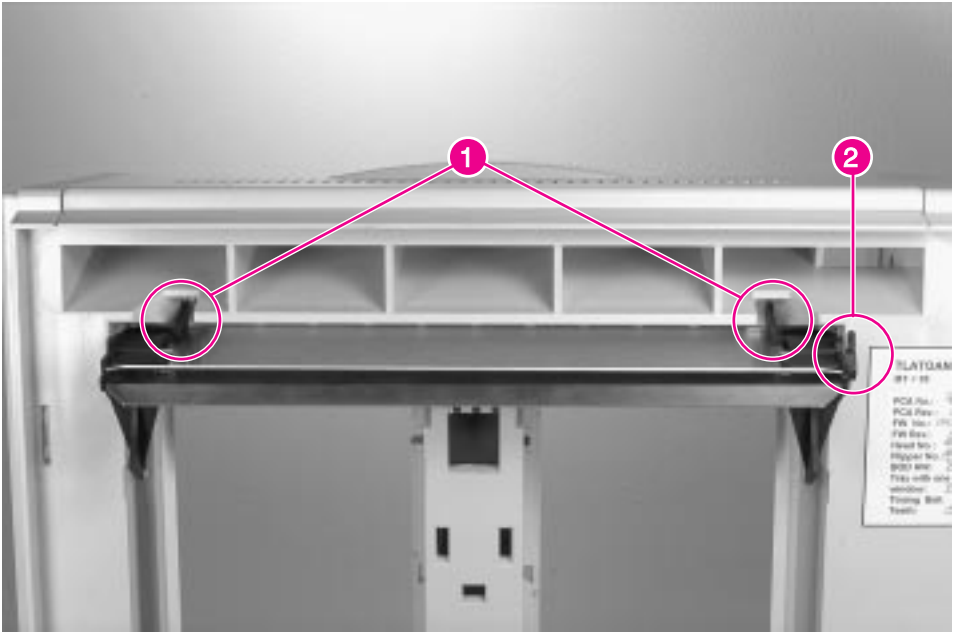

Figure 6-61 Mailbox with Stapler, Input Paper Guide
- 3 From the rear of the unit, release the Paper Guide retaining tabs (figure 6-61, callout 1).
- 4 Carefully pull the paper guide free of the frame while routing the ground wire through the access hole (figure 6-61, callout 2).